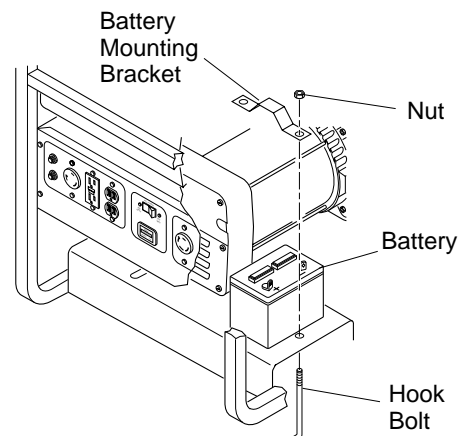

Figure 10 - Battery Hold-Down System (Model MGH7000D Shown)
1. Secure battery to generator by battery hold-down system. This system consists of the battery mounting bracket, hook bolts, and nut (see Figure 10).